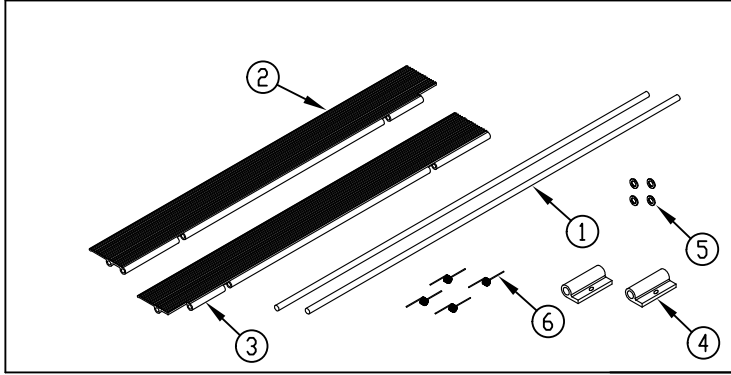

Figure 1: Parts Identification.
1. **Verify** that you have the parts needed for the scope of the repair you are completing (Figure 1 and Table 1).